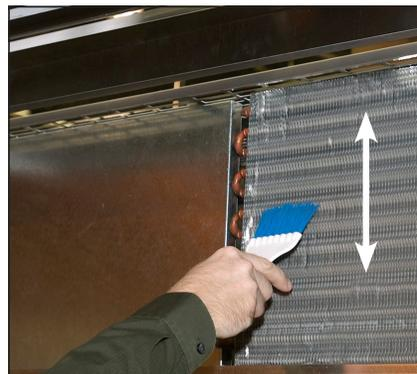

Fig. 3. Never brush across coil fins.
4. With a stiff bristle brush, carefully clean accumulated dirt from the front condenser coil fins See fig. 3.